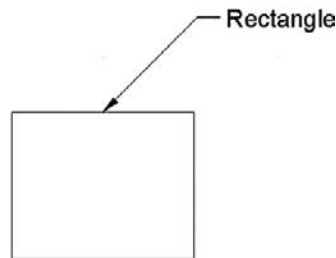

FIGURE 6.13
This is an *arrow and label* combination pointing at something (Figure 6.13).
- Step 2.** Click with OSNAP precision on your shape, perhaps a midpoint on the top side, as seen in Figure 6.13.